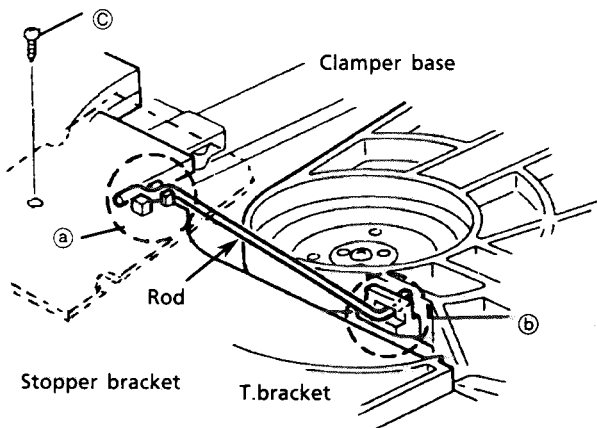

Fig. 19
(See fig. 19)
2. Remove the screw ③ holding the stopper bracket.(See Fig.19) --- (U.S.A only)
3. Remove the rod from both ends' hooks which are secured on T.Bracket ④ and clamber base ⑤. (See Fig. 19)